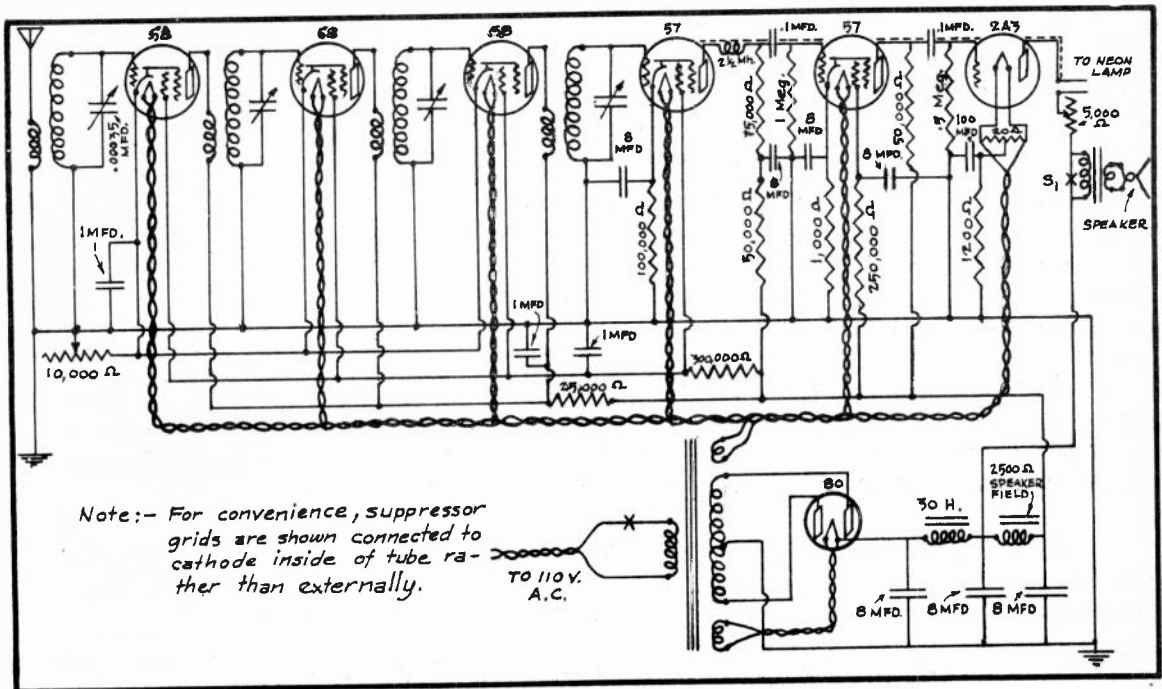
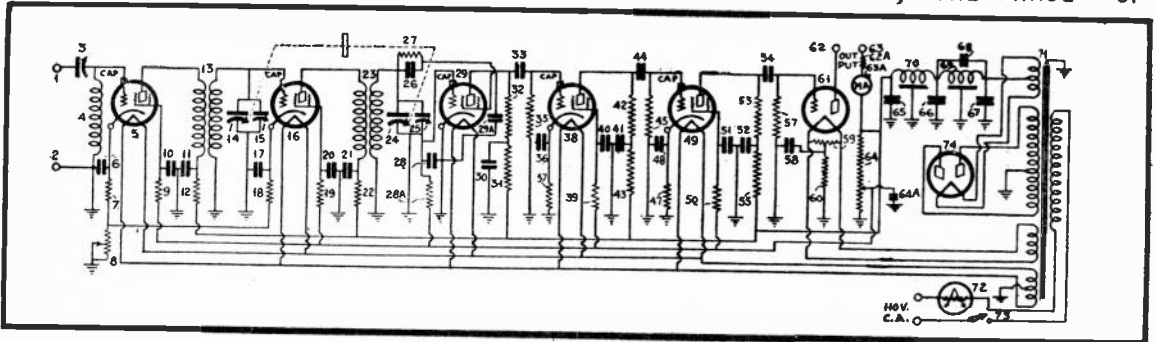

FIG. 5
FIG. 6
A GOOD EXAMPLE OF A MODERN CIRCUIT DESIGN IS SHOWN YOU IN FIG. 5. THIS RECEIVER IS OF CONVENTIONAL T.R.F. DESIGN AND EMPLOYS TYPE 58 TUBES IN THE FIRST THREE R.F. STAGES, A 57 POWER DETECTOR, A 57 FIRST A.F., A 2A3 POWER TUBE AND AN 80 RECTIFIER.
SOLENOID, CLOSE-WOUND TYPE, THE SECONDARY INDUCTANCE BEING SO CHOSEN THAT FOR A VARIABLE CONDENSER OF GIVEN RATING, THE ARRANGEMENT WILL TUNE OVER THE BAND DESIRED. NOTICE ESPECIALLY IN FIG. 5 THAT A POWER DETECTOR IS USED IN THIS PARTICULAR CIRCUIT.
IN FIG. 6 YOU ARE SHOWN THE CIRCUIT DIAGRAM OF A SEVEN-TUBE TELEVISION RECEIVER IN WHICH GRID DETECTION IS USED. THIS IS AN A.C. TYPE RECEIVER EMPLOYING TWO STAGES OF R.F. AMPLIFICATION, FOLLOWED BY A SPACE-CHARGE DETECTOR OF THE GRID CONDENSER AND LEAK TYPE. THE DETECTOR FEEDS INTO TWO STAGES OF RESISTANCE-CAPACITY COUPLED A.F. AMPLIFICATION AND THE PICTURE SIGNALS ARE FINALLY IMPRESSED ACROSS THE OUTPUT OF A SINGLE POWER TUBE.
IN ORDER TO HAVE AN R.F. AMPLIFIER, WHICH IS ACCURATELY DESIGNED TO PASS A FREQUENCY BAND OF THIS WIDTH, MOST EXPERIMENTERS BUY THE R.F. TRANSFORMERS FROM CONCERNS, WHOSE LABORATORIES ARE EQUIPPED WITH THE NECESSARY TESTING APPARATUS TO PRODUCE ACCURATELY DESIGNED R.F. TRANSFORMERS, AND SUCH IS THE CASE FOR THE RECEIVER ILLUSTRATED IN FIG. 6. YOU CAN, HOWEVER, WIND YOUR OWN R.F. TRANSFORMER IF YOU SO DESIRE AND IF YOU DO, RE
(SPECIFICATIONS FOR TELEVISION RECEIVER CIRCUIT OF FIG.6)
BY AGAIN COMPARING THE CIRCUIT IN FIG.5 WITH THAT IN FIG.6 YOU WILL NOTICE THAT WHEN POWER DETECTION IS EMPLOYED, AS IN FIG.5, THEN AN EVEN NUMBER OF A.F. STAGES FOLLOW THE DETECTOR. THAT IS, WE CAN IN THIS CASE USE 2, 4 OR 6 A.F. STAGES. WHILE ON THE OTHER HAND, WHEN USING GRID DETECTION AS IN THE CIRCUIT OF FIG.6, WE USE AN ODD NUMBER OF A.F. STAGES FOLLOWING THE DETECTOR, THAT IS, 1, 3 OR 5 A.F. STAGES.
9. - WHY IS SWITCH S₁ PROVIDED IN THE CIRCUIT WHICH IS ILLUSTRATED IN FIG.5 OF THIS LESSON?